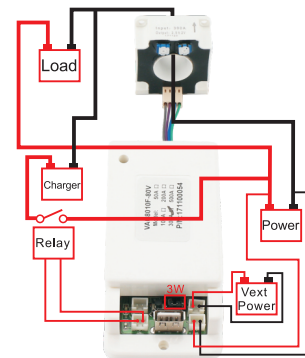

Figure 3-3
3). Charge Relay Wiring Instruction (Figure 3-3)